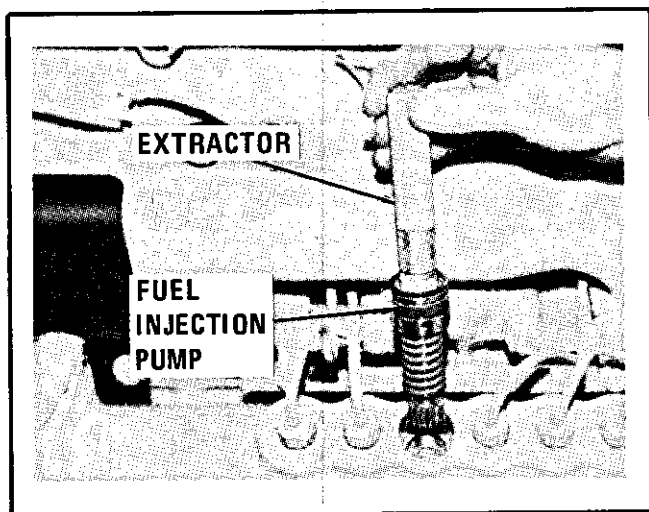

Figure 2-7. Injection pump extractor tool
1. Remove cap screws (2, 3, 4, 5), lock washers (6), and bracket (1). Remove and discard preformed packing (7, 8, 9, 10). Plugs (11, 12) need not be removed from bracket (1).
2. Remove cap screws (13, 14), washers (15), and remove injection pump assembly from engine. Remove and discard gasket (51).
3. Remove felt washers (16), bushings (17), and seals (18) from each fuel injection pump cavity in housing (50).
4. Attach an extractor to the injection pump assemblies (items 19 through 25) and remove the assemblies from the housing (50) (see figure 2-7 following).
7. Install each fuel injection pump assembly (pre-assembled in paragraph 2-57.d.2 above) so that notches engage with two locating pins in each housing bore. Use an extractor tool as shown in figure 2-7 to assemble injection pumps in housing.